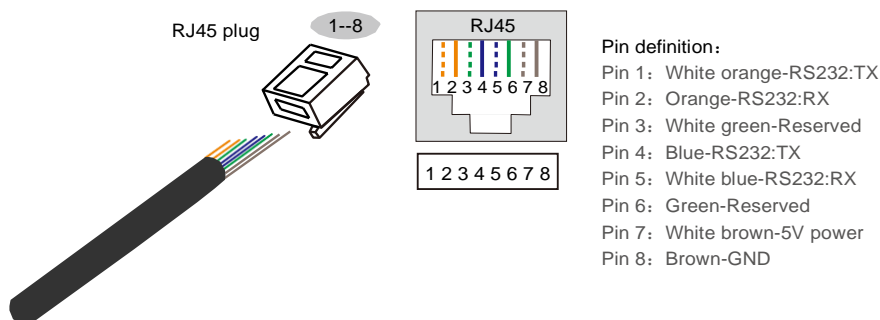

Figure2-14 Pin definition of RS232
2. RS232 port is used for RS232 serial port communication, which is to achieve the external SNMP card communication. RS232 port adopts RJ45 plug. The pin definition as shown in Figure2-14